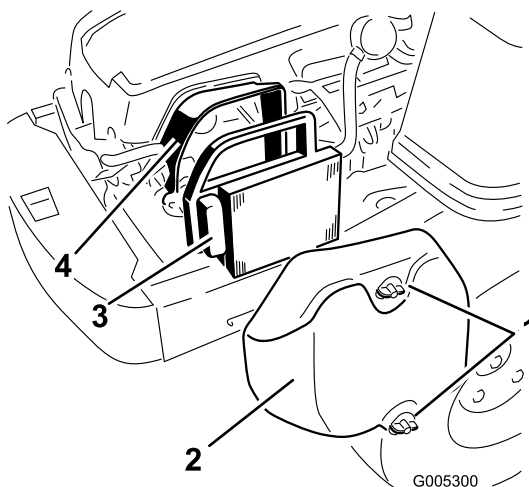

Figure 25
1. Remove the air cleaner cover (Figure 25).
2. Remove the air cleaner element with the integral rubber seal (Figure 25).
5. Install the air cleaner element with the pleated side “out” and seat the rubber seal onto the edges of the air cleaner base (Figure 25).
6. Reinstall the air cleaner cover and secure with the two knobs (Figure 25).